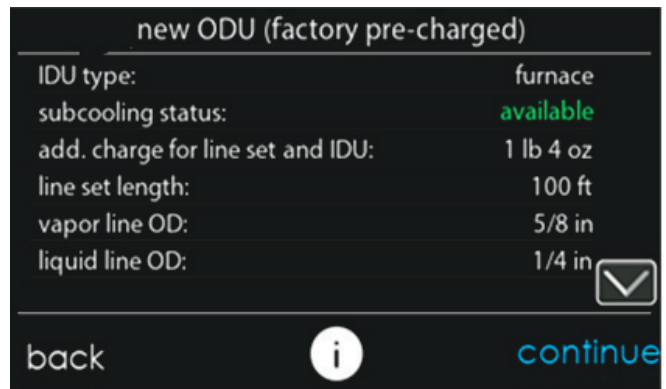
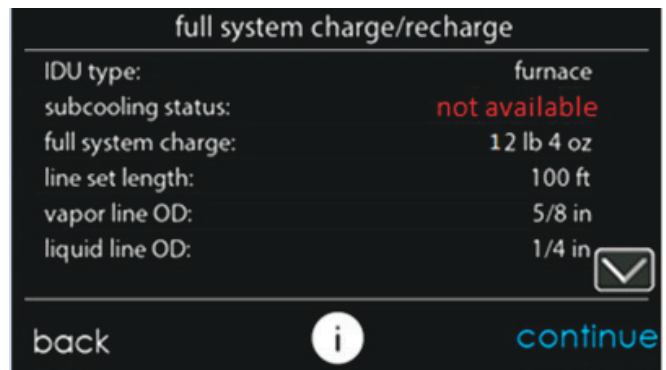

Fig. 15 – New ODU (factory pre-charged) - Subcooling Available
Fig. 16 – Full System Charge/Recharge - Subcooling Unavailable
- If indoor and outdoor conditions are in range, subcooling status will be green and available (Fig. 15). If conditions are outside the range, subcooling status will be red and unavailable and will require a partial weigh-in of charge (Fig. 16). Both “new ODU (factory pre-charged)” and “full system charge/recharge” modes will allow the user to move forward to start the system regardless of whether subcooling charging is available. Lineset configuration and climate zone / ODU material type can be changed by selecting appropriate line if needed. For “new ODU (factory pre-charged)” record the ADDITIONAL charge amount listed. For “full system charge/recharge”, record the FULL system charge amount listed. Press continue.